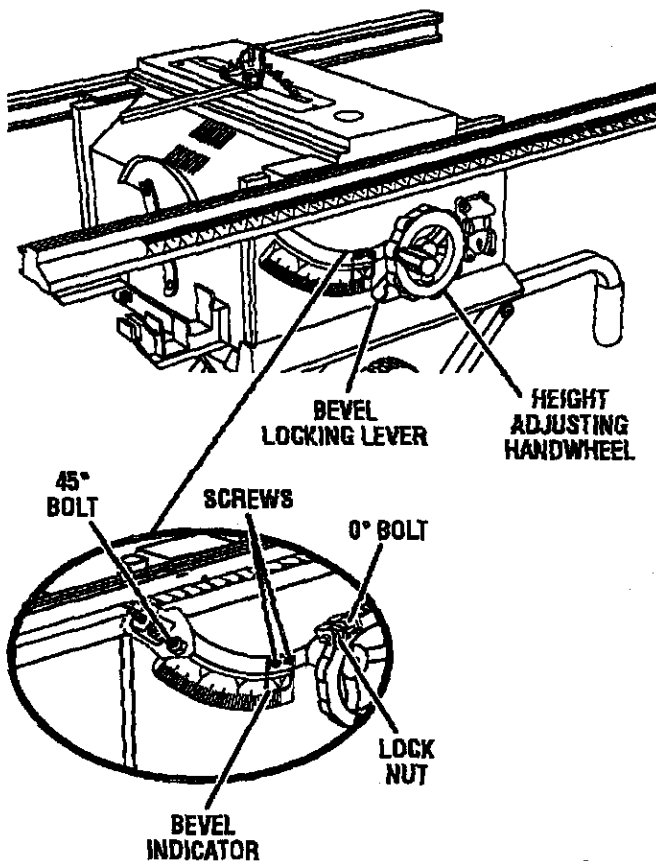

Fig. 62
See Figure 62.
- If the blade is not perfectly vertical (0°), loosen the lock nut on the 0° bolt inside the cabinet, position the blade, adjust the bolt, then retighten lock nut. See Figure 62, insert. If the bevel indicator is not at zero, adjust it with the two screws above the slot, beside the height/bevel adjusting handwheel.